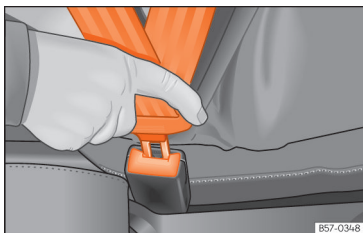

Fig. 20 Insert the latch plate of the seat belt into the buckle.
- Insert the buckle plate in the buckle of the correct seat » » » Fig. 20.